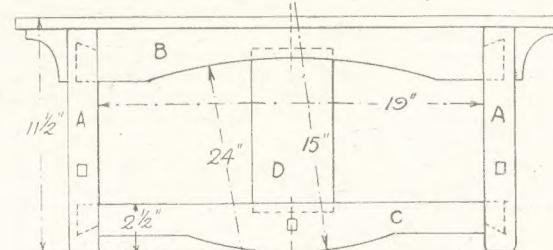

Fig. 1—General outline of main parts with dimensions
The front view of the frame, Fig. 1, gives the positions of the rails and how they are to be fixed together. The side rails (A) are 11ins. long by 1½ins. wide by ½in. thick. Top rail (B) is 21ins. long by 2½ins. wide at the ends, and 1½ins. deep in the middle, by ½in. thick. The bottom rail is 21ins. long by 1½ins. wide at the ends and 2½ins. wide in the middle, by ½in. thick. The middle panel is 8ins. long by 4ins. wide by ½in. thick.